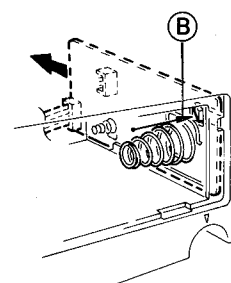

Fig. 7-10
3. Remove the screw (11) retaining the [+] battery contact P.C. board.
4. After turning back the body, dismount the battery cover. Next, remove the claw B retaining the [-] battery contact P.C. board, and draw it out to the front side (refer to Fig. 7-10).